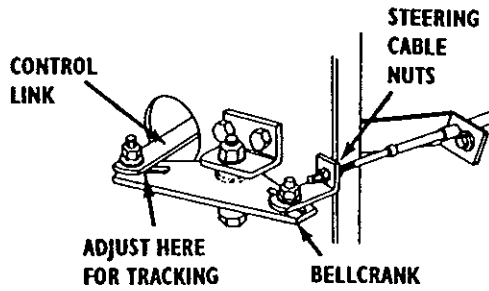

FIGURE 13B
- c. Adjust neutral position as needed. Loosen nuts on end of steering cables. (see figure 13B) Move in direction that stops drive wheels. Tighten nuts.